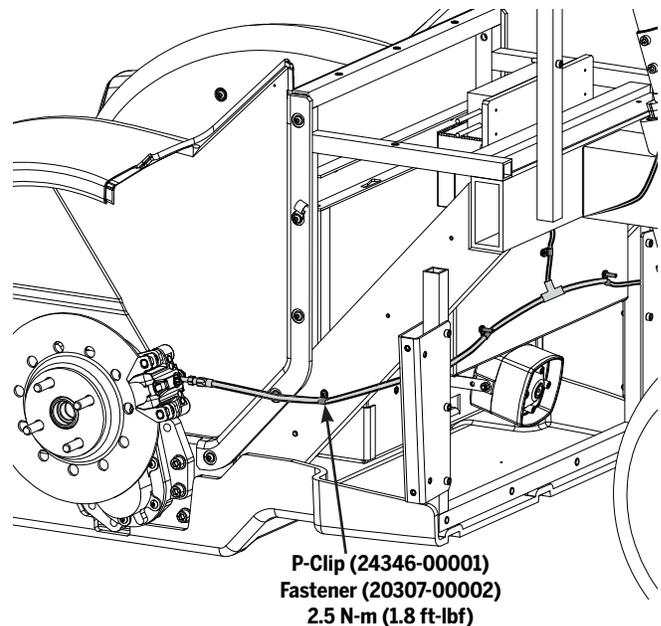

Figure 104: Rear Brake Line
6. Using a 2.5 mm hex wrench, remove the P-Clips on the sides of the frame (one each side). See Figure 104.
7. Route one end of the brake line along the right side of the frame. Thread the brake line between the harnesses and the frame. See **Figure 104**.